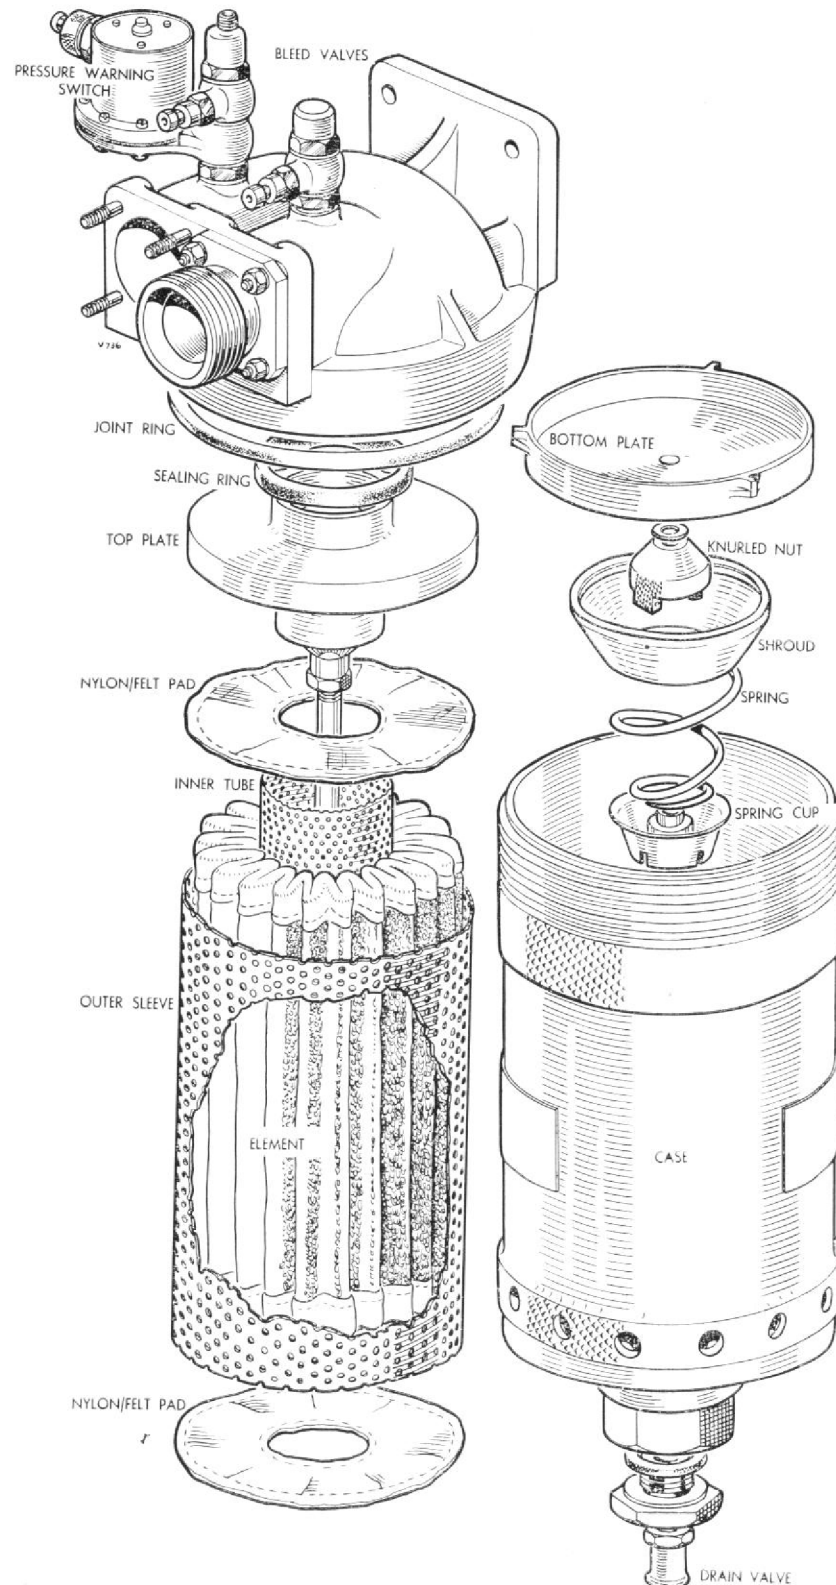

Fig. 1. Vokes low pressure fuel filter.
1. Using the small end of spanner T.73692 with tommy bar T.73693 unscrew the filter case, supporting the case as the last few threads are unscrewed, Fig. 1.